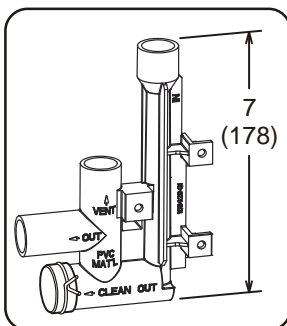

FIGURE 59
This unit is designed for either right- or left-side exit of condensate piping in upflow applications. In horizontal applications, the condensate trap must extend below the unit. An 8" service clearance is required for the condensate trap. Refer to figures 51 and 53 for condensate trap locations. Figure 59 shows trap assembly using 1/2" PVC or 3/4" PVC.
- 3 - Install the cap over the clean out opening at the base of the trap. Secure with clamp. See figure 59.
- 4 - Install drain trap using appropriate PVC fittings, glue all joints. Glue the provided drain trap as shown in figure 59. Route the condensate line to an open drain. Condensate line must maintain a 1/4" downward slope from the furnace to the drain.